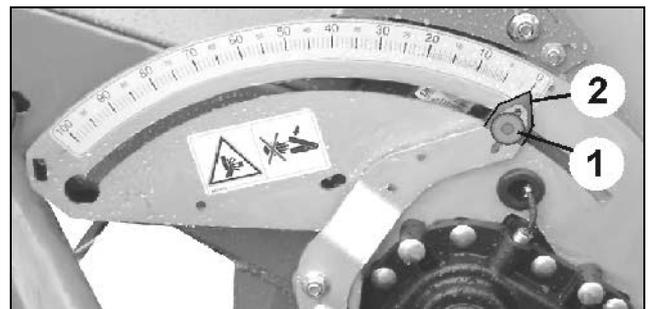

Fig. 66
- Slacken the star knob (Fig. 66/1) of the gearbox setting lever.
- Move the gearbox setting lever (Fig. 66/2) to one of the following gearbox settings:
- Tighten star knob (Fig. 66/1).